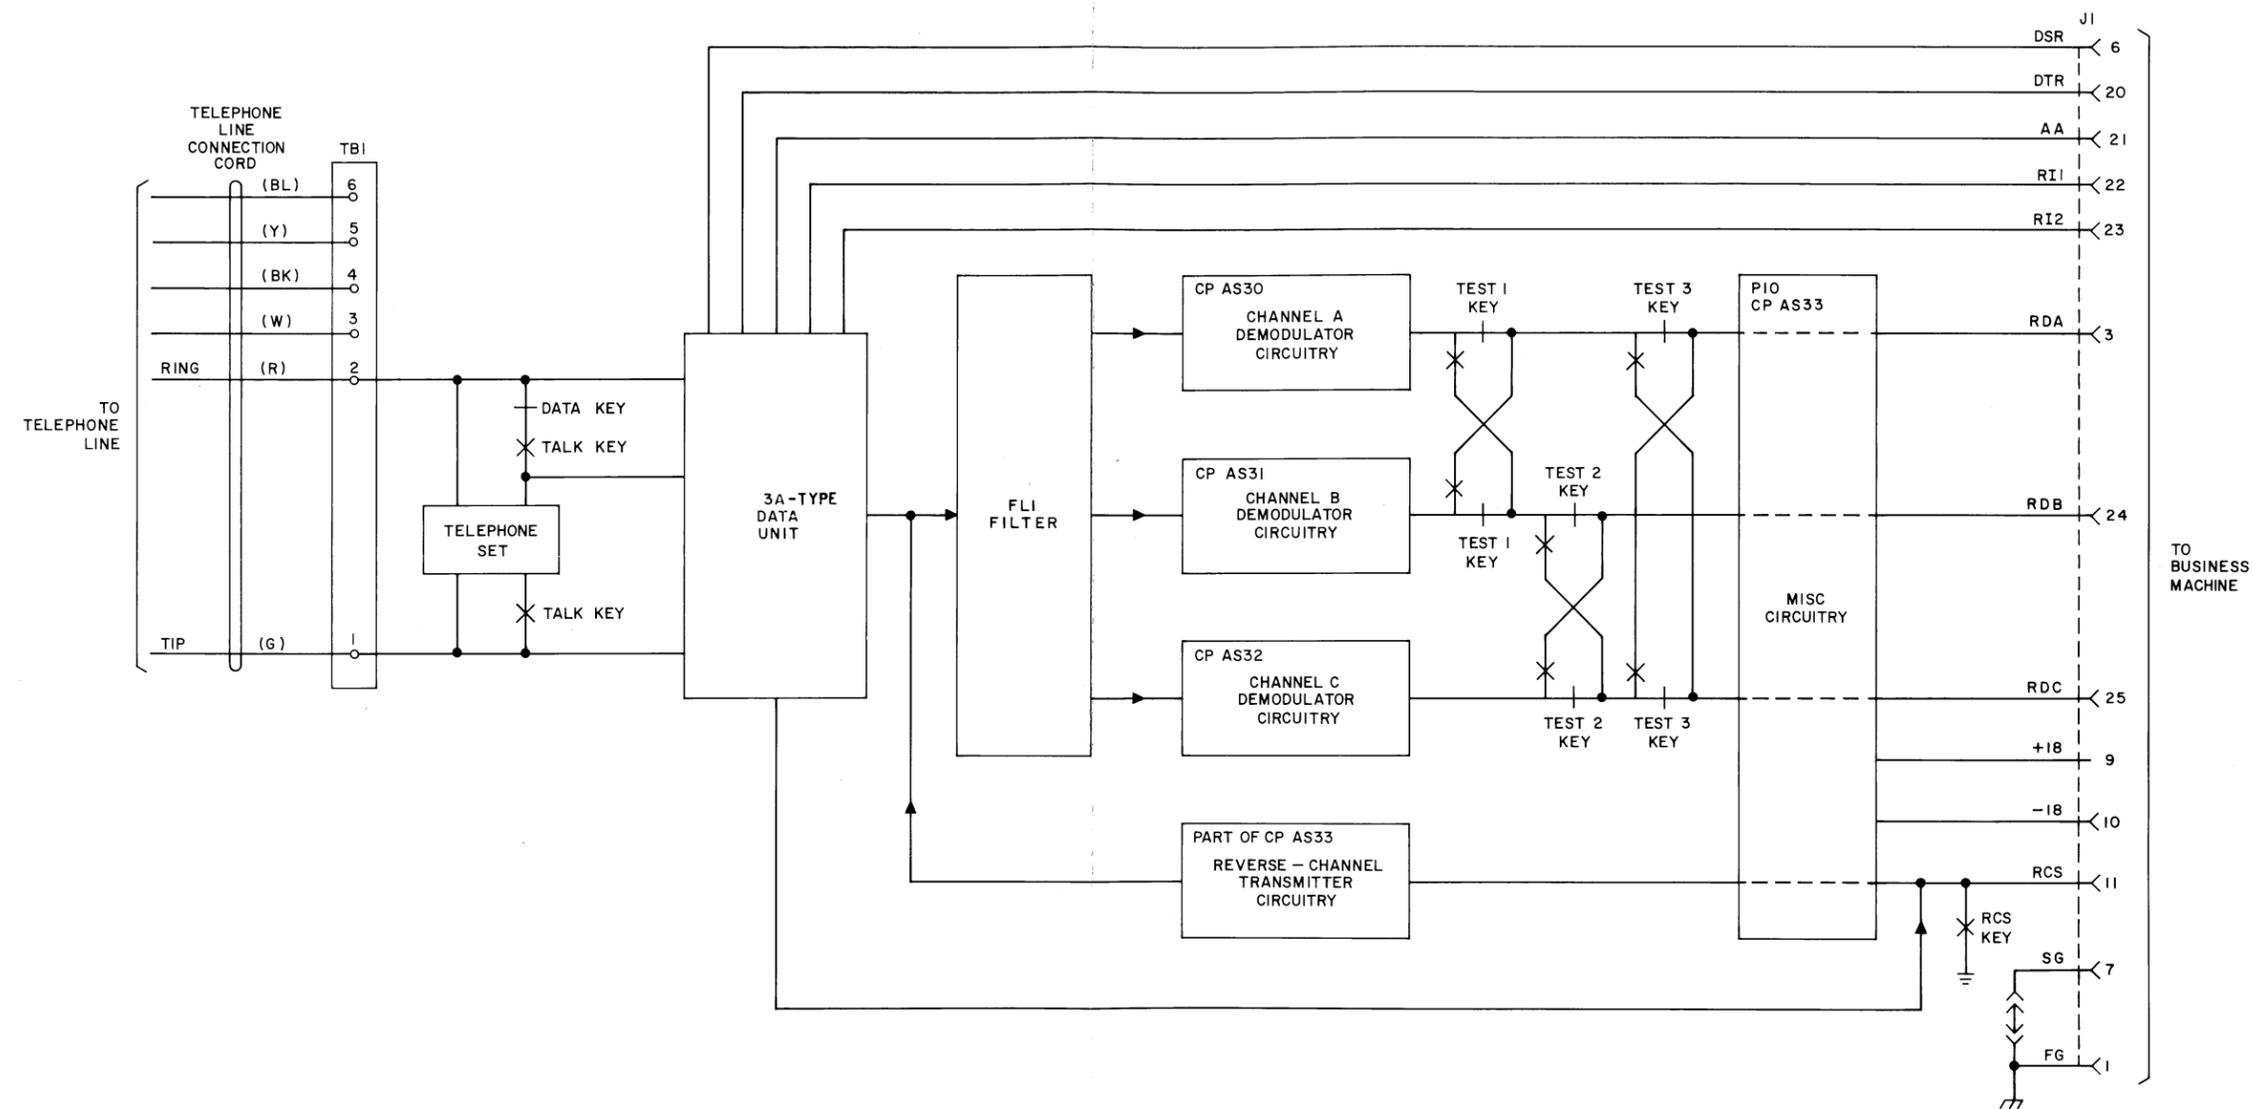

Fig. 3—Data Set 604B-Type Block Diagram
- (a) Depressing TEST 1 will transpose the channel outputs of channel A and channel B. This will cause the data information of channel A to be passed over the channel B output leads to the associated business machine as shown in Fig. 3. The data of channel B will now be passed over the channel A output leads to the associated business machine.